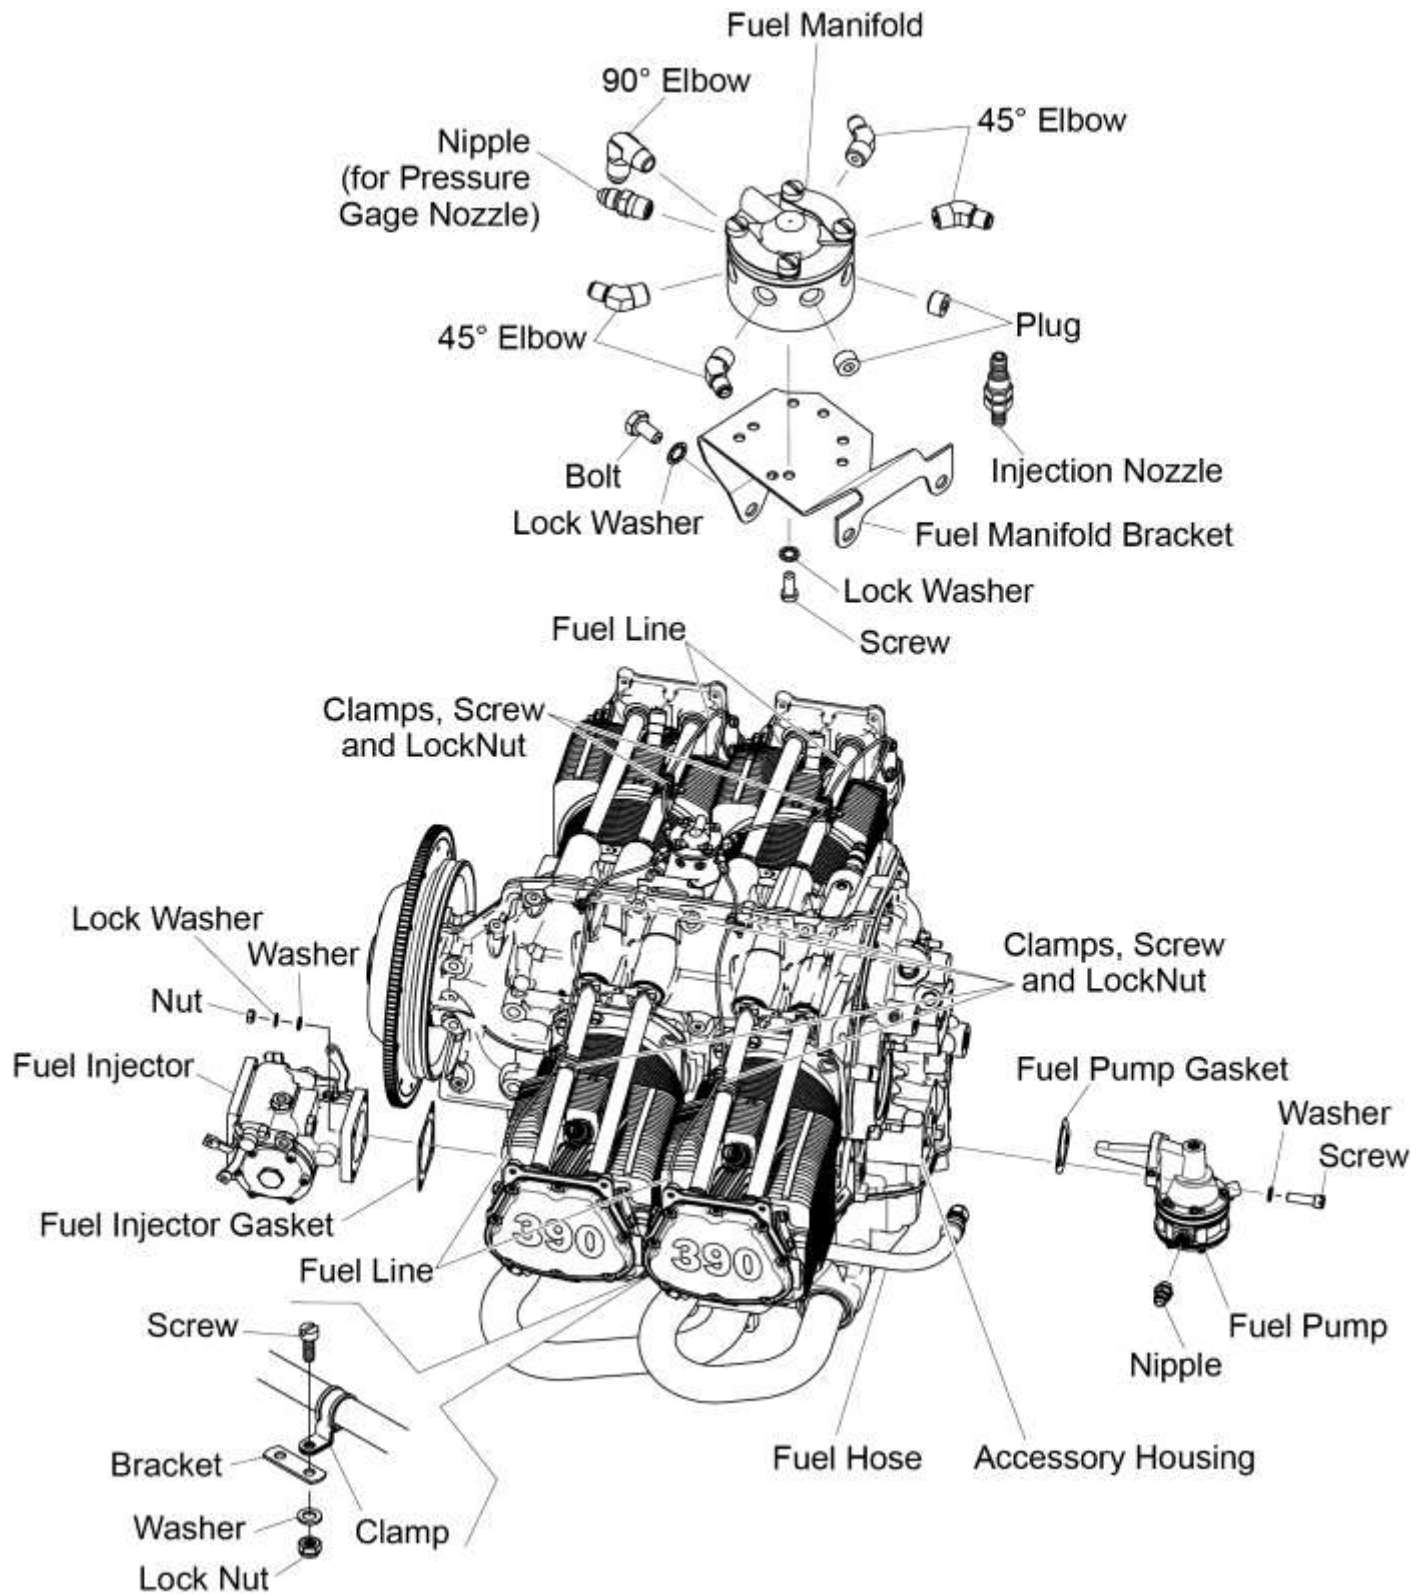

Figure 1
NOTICE: Figure 1 is a general conceptual reference figure of fuel system components. Some of the IO-390-D engine models contain fuel system components made up of different configurations and part numbers. Refer to the applicable latest edition of the *IO-390-D Series Engines Illustrated Parts Catalog* for part number details.
- C. Examine the fuel manifold (Figure 1) for damage, leaks, and loose fittings or connections. Tighten any loose fittings or connection. Replace a damaged fuel manifold per the “Fuel Manifold Replacement” procedure in this chapter.
- E. Examine each injection nozzle (Figure 1) for damage or wear; replace a damaged or worn injection nozzle per the “Injection Nozzle Replacement” procedure in this chapter.